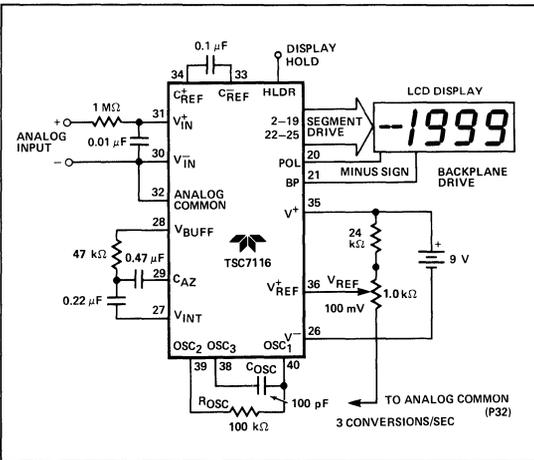
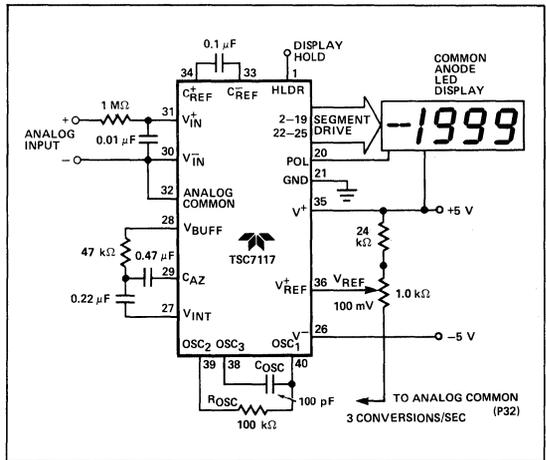

Figure 1: Typical TSC7116 Operating Circuit
Figure 2: Typical TSC7117 Operating Circuit
- Unless otherwise noted, specifications apply to both the TSC7116 and TSC7117 at  $T_A = 25^\circ\text{C}$ ,  $f_{\text{LOCK}} = 48\text{ kHz}$ . TSC7116 is tested in the circuit of Figure 1. TSC7117 is tested in the circuit of Figure 2.